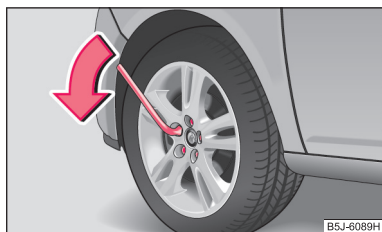

Fig. 154 Changing a wheel: Slackening wheel bolts
- Grasp the end of the wrench and turn the bolt about **one** turn to the left ⇒ fig. 154.